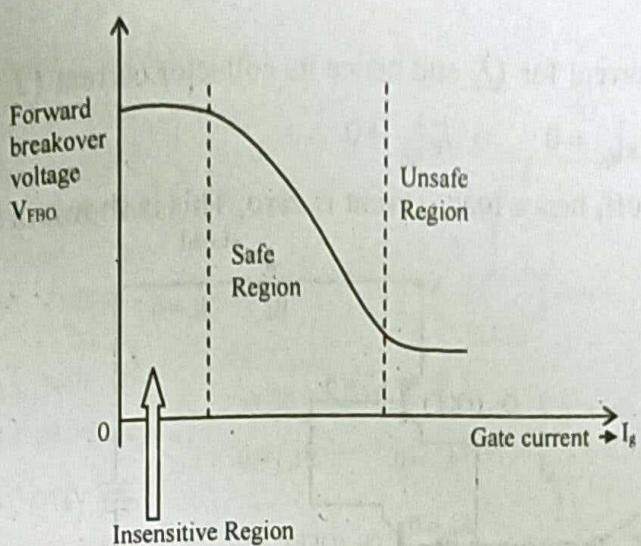

Fig: 1 Variation of  $V_{FBO}$  against that of  $I_g$
- The variation of forward break over voltage with that of gate current is shown in fig. 1.